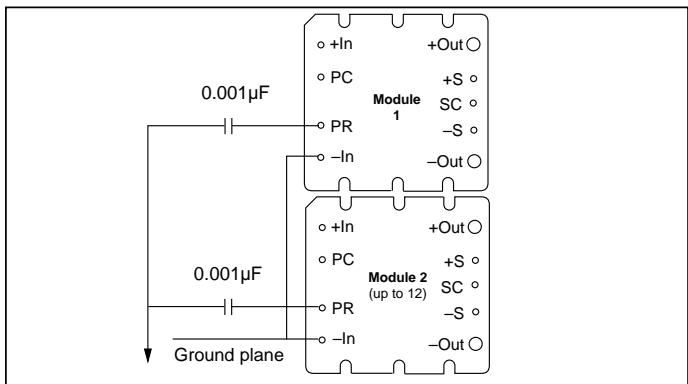

Figure 10—AC coupled single-wire interface.
*AC coupled single-wire interface.* All PR pins are connected to a single communication bus through 0.001µF (500V) capacitors. This interface supports current sharing and is fault tolerant except for the communication bus. See Figure 10.